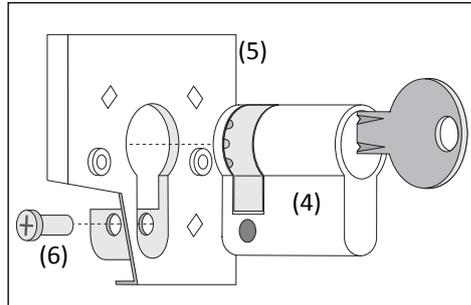

Figure 5
- Using key, move lock bit on profile half cylinder (4) to 180° position and guide it through the centre plate (5) from the front (Figure 5).
- Connect lock cylinder and centre plate using the locking screw (6).